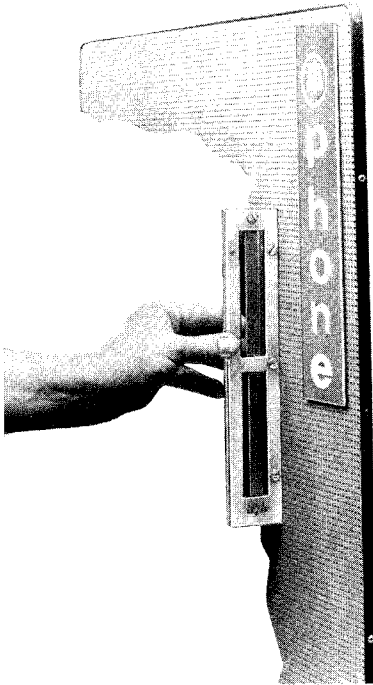

Fig. 8—KS-22473 Leveling Device Being Used to Check Wall and Backboard Alignment
- (1) If a 178A backboard is used, position the leveling device so that the (2) studs insert into (2) of the center holes on the backboard and check that the black centerline on the pendulum is within the two 1.5 degree marks on the frame of the leveling device.
- (2) Align either long edge of the leveling device along the surface of the telephone enclosure (Fig. 8) on which the telephone set mounts and check that the black centerline on the pendulum